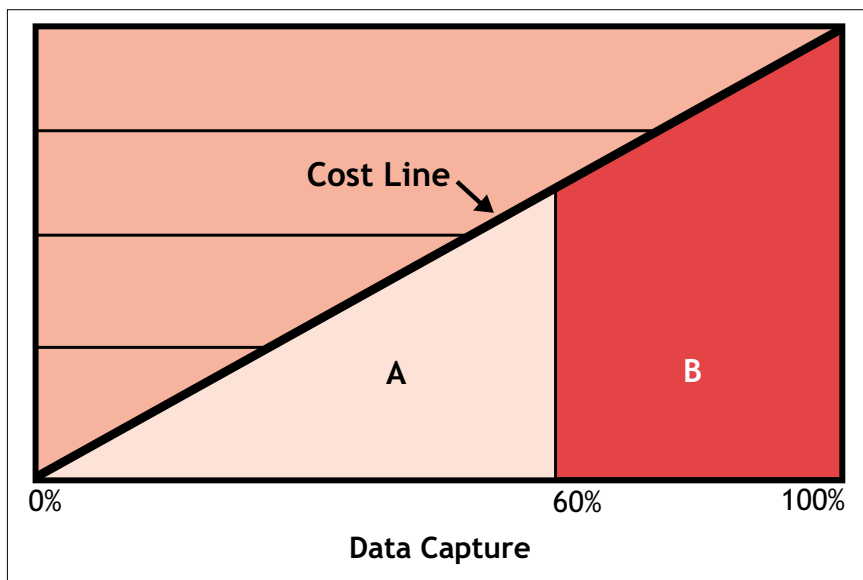

Figure 2: Projected data capture cost
For our example, let us assume that we have spent \$100,000 to date on our competitive intelligence project and have reached the 60% mark for data capture (X). Assuming a slope of 1 for the diminishing returns line, we get Area equal to \$100,000. (See Figure 2.) The question remains: how much more expensive will it be to get to 100% data capture? The simple calculation is: